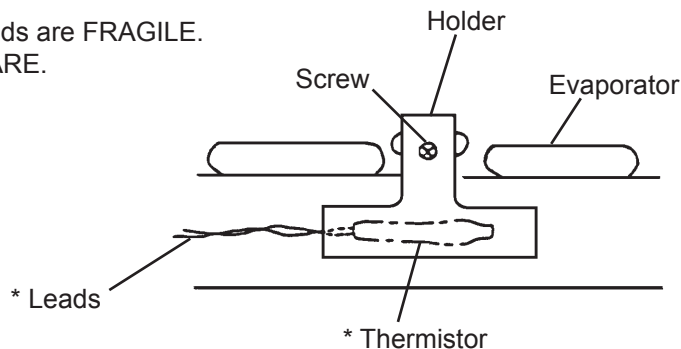

Fig. 18
- 5) Install the new thermistor in the reverse order of the removal procedure, by using a sealant (High-thermal Conduct Type). See Fig. 18.